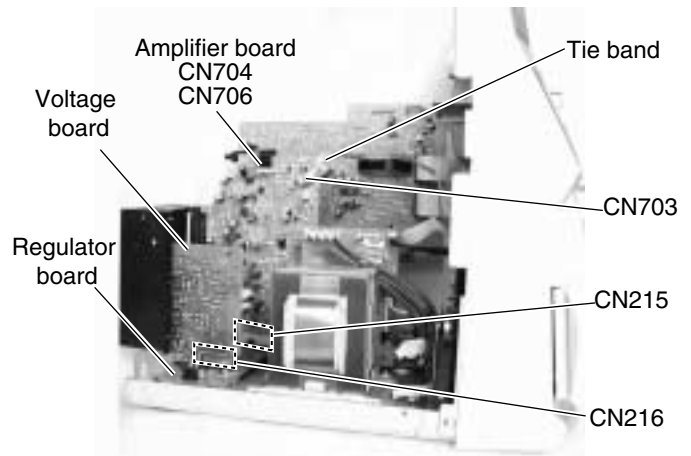

Fig.20
■ Removing the amplifier board / voltage board / heat sink (See Fig.20 and 21)